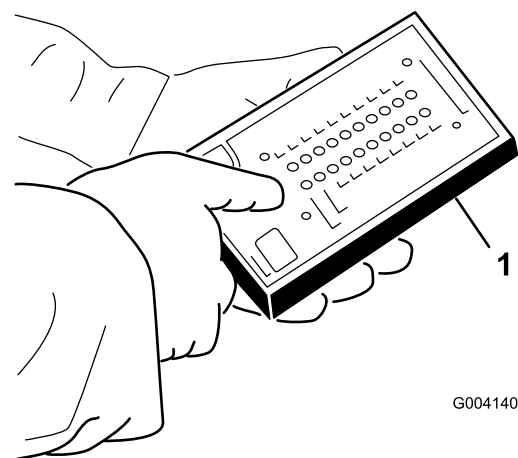

Figure 40
5. Connect the Diagnostic ACE display connector to the harness connector (Figure 40).